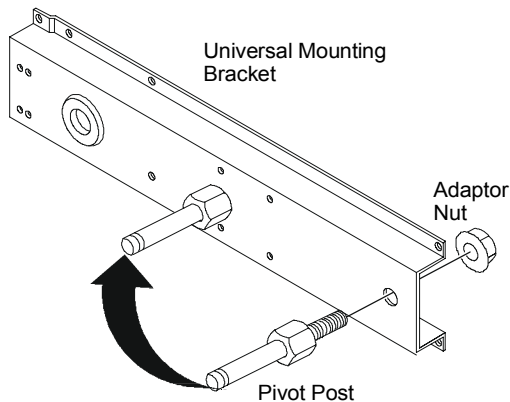

Figure 10: Moving Pivot Post
2. Move the pivot post from the factory-assembled hole at the end and mount it to the similar hole in the middle of the universal mounting bracket, as shown in Figure 10.